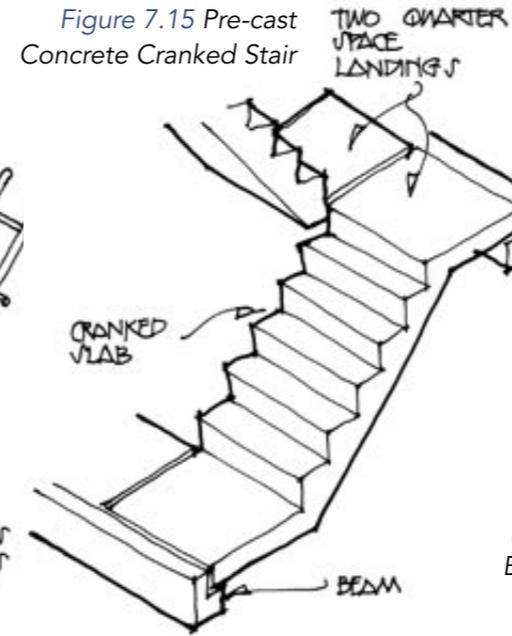

Figure 7.15 Pre-cast Concrete Cranked Stair
**Pre-cast Cranked Stair** (Figure 7.15) This is a straight flight that incorporates a quarter-space landing at the top and bottom. When two or more cranked stair units are installed, the quarter landings are linked to form a half-space landing. The stair is reinforced in a similar manner to the straight flight stair (above) with continuity reinforcement in the side of the landing area to link with that of the adjacent cranked stair unit.